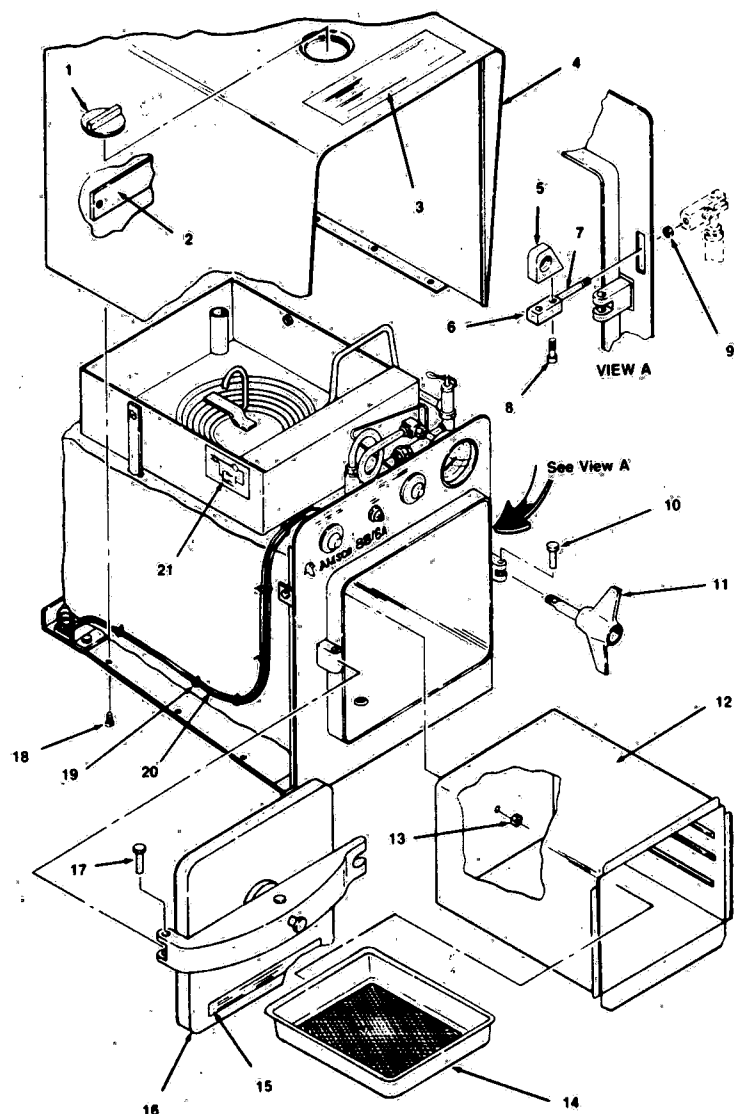

Figure 7-1. GENERAL ASSEMBLY — PART 1 OF 4.
1. Unplug power cord from electric service outlet and remove the finish jacket assembly and bottom cover (Fig. 7-1).
2. Open chamber door and remove liner nut (Fig. 7-1).
1. Unplug power cord from electric service outlet and remove the finish jacket assembly (Fig. 7-1).
16. Disconnect power cord from electric service outlet and install the finish jacket assembly (Fig. 7-1).